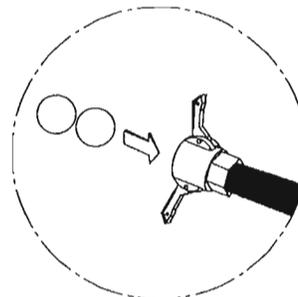

FIG 10
- While the pipelines are still full, insert two cleaning sponges and refit the pipeline in the manifold (fig.10)